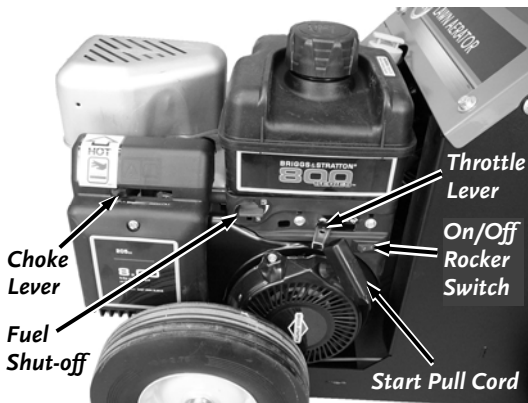

Figure 8
2. Check the Fuel level and make sure the Gas Shut-Off Valve is in the OPEN position (**Figure 8**) (refer to your Engine Operator’s Manual).
1. When starting a cold Engine; push the Choke lever to the right “CHOKE” position (**Figure 8**). If re-starting a warm Engine, leave the Choke in the “RUN” position.
1. Move the Throttle Lever to the Turtle (slow) position allowing the Engine to idle (**Figure 8**).